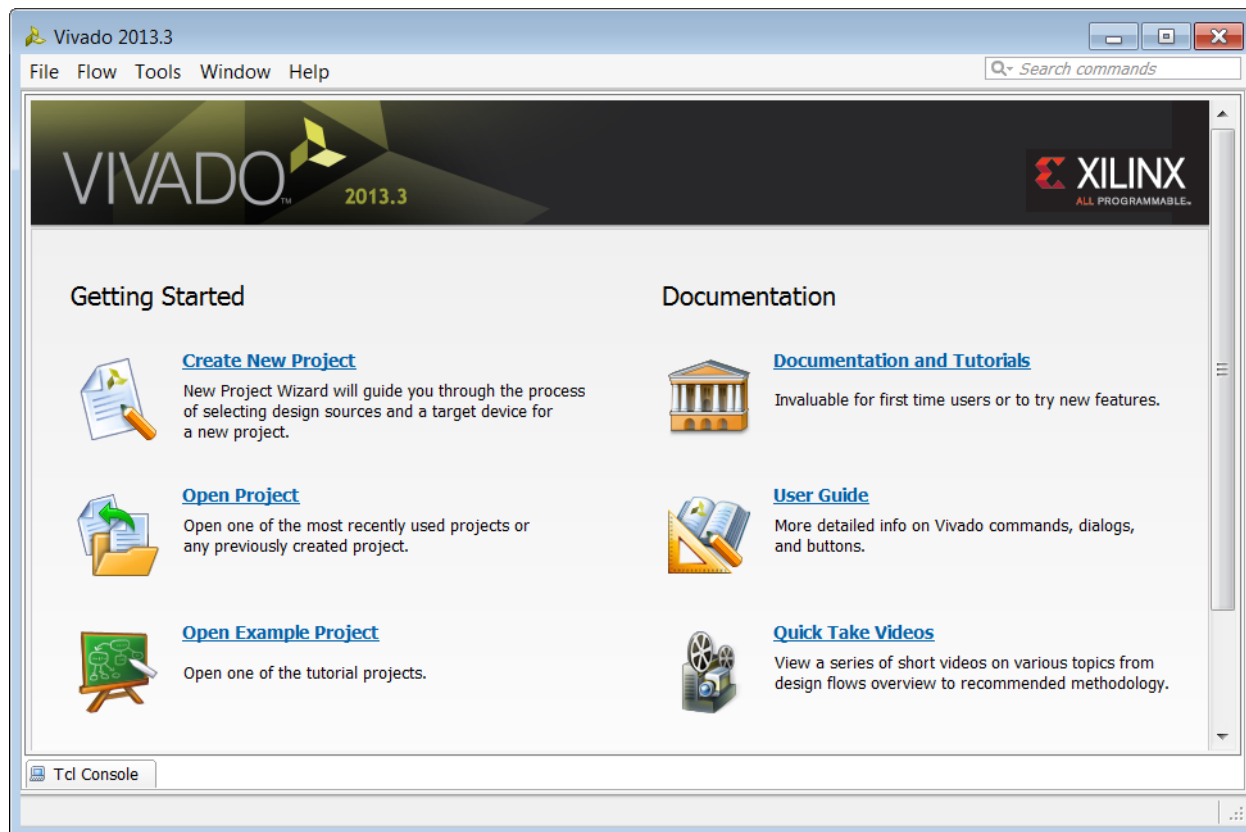

Figure 217: Vivado Welcome Screen
2. From the Welcome screen, click **Create New Project** (Figure 217).